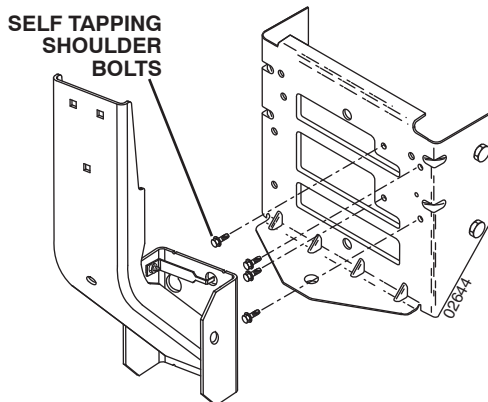

FIG. 1B
NOTE: If your tractor already has four (4) shoulder bolts installed on the rear drawbar, simply hang the mounting bracket, on the bolts. Discard included shoulder bolts and disregard Fig 1B.
SELF TAPPING SHOULDER BOLTS (See Fig. 1B)